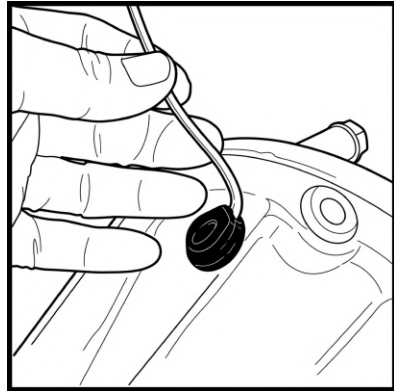

Fig. 30
3.2 Remove the right-hand bearing cap bolts (3), then install the bracket (2) as shown in (Fig. 30). Rotate the magnet until its locating tab (1) engages with the dedicated notch in the bracket (2), then retighten the right-hand bearing cap bolts (3). Once the magnet is installed with its anti-rotation stop engaged, the cable exit point will assume its final position, allowing you to proceed with determining the hole location in the differential housing.
3.25 While holding the rubber seal in place with one hand, pull the end of the cable through the side opening with the other hand. This will allow the magnet cable to rotate and lock into position at a 90° angle in the cable gland. **(Fig. 30)**